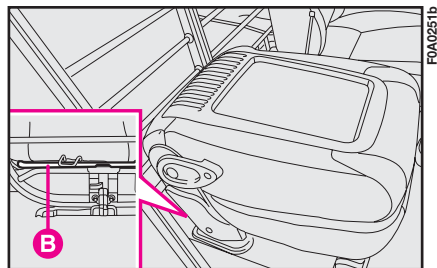

fig. 55
- use lever **B**-fig. 55 to tip the whole seat forward;